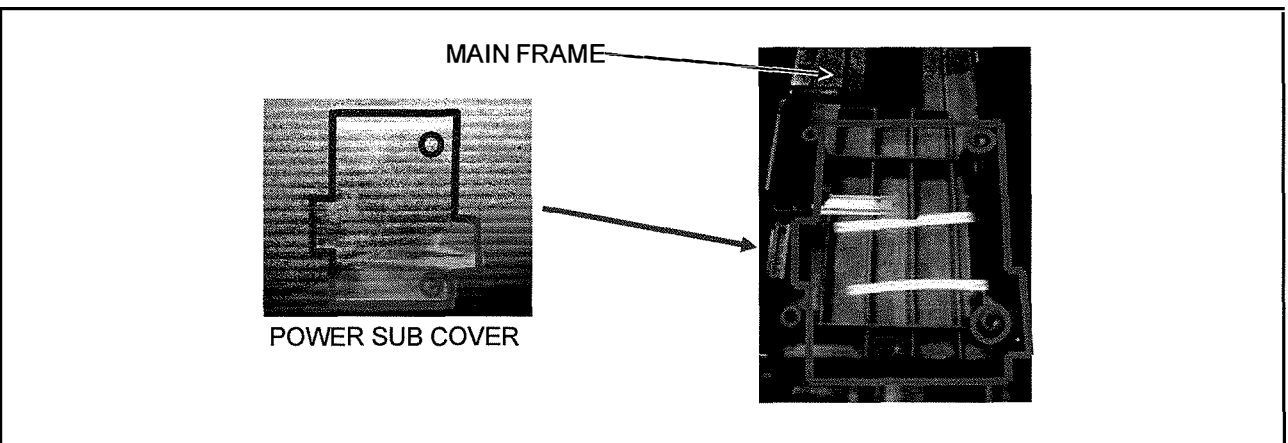

Figure 7-6
1. Confirm that the POWER SUB COVER is installed to corrected position as shown in figure 7-6, before you assemble the POWER SUB P.C.B..